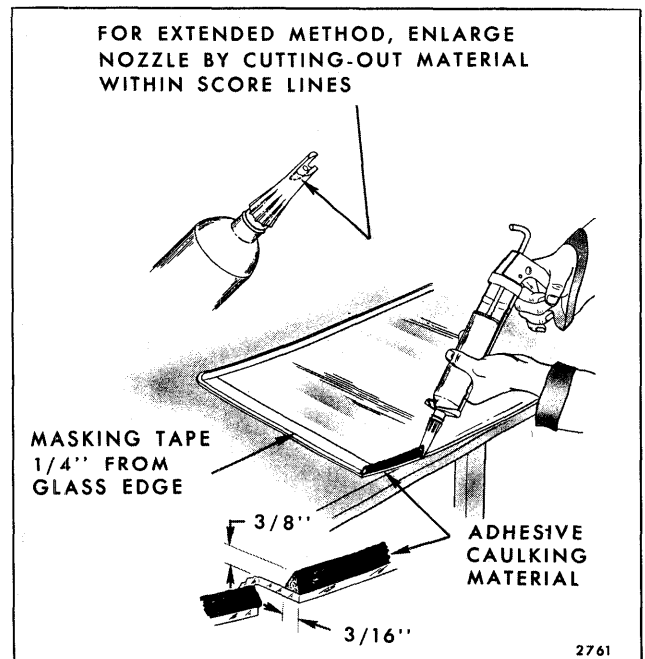

Fig. 11-12-Adhesive Material Application - Extended Method
10. If desired, apply one-inch masking tape around inner surface of glass $1/4"$ inboard from outer edge. On windshield installations, apply tape to top and sides only. Do not use tape across bottom. Removal of tape after glass installation will aid in clean-up and give a smooth, even edge to adhesive material (Fig. 11-12).
11. Nozzle furnished in kit is designed for "short" method. For "extended" method, enlarge nozzle by removing material within score lines as indicated in Figure 11-12. Do not notch nozzle beyond score lines.
14. With caulking gun and nozzle positioned as illustrated in Figure 11-12, carefully apply smooth continuous bead of adhesive material $3/8"$ high by $3/16"$ wide at base completely around inside edge of glass.